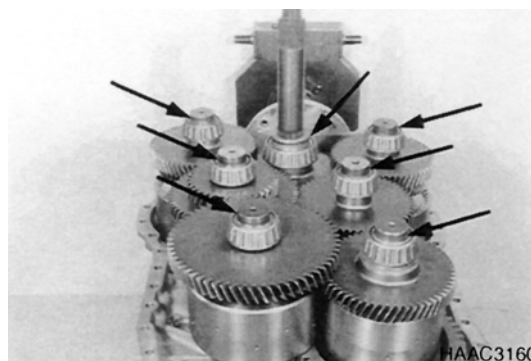

Figure 239
9. Squeeze rectangular rings (7 pieces, see Figure 239) in and hook them in.